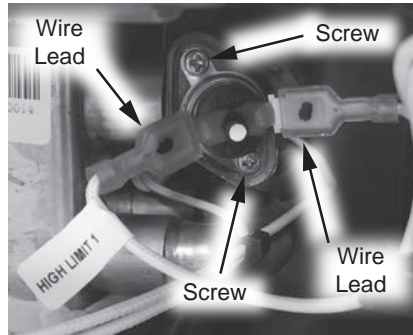

Figure 17 - Hi-Limit switch location
- 4 Locate the hi-limit switch on the heat exchanger (top right side of water heater). Disconnect the two wire leads (labeled HIGH LIMIT 1) from the hi-limit switch. See Figure 17.
- 5 Use a Phillips screwdriver to remove the two screws securing the hi-limit switch to the heat exchanger. Place screws aside in a safe place for reinstallation. See Figure 17.